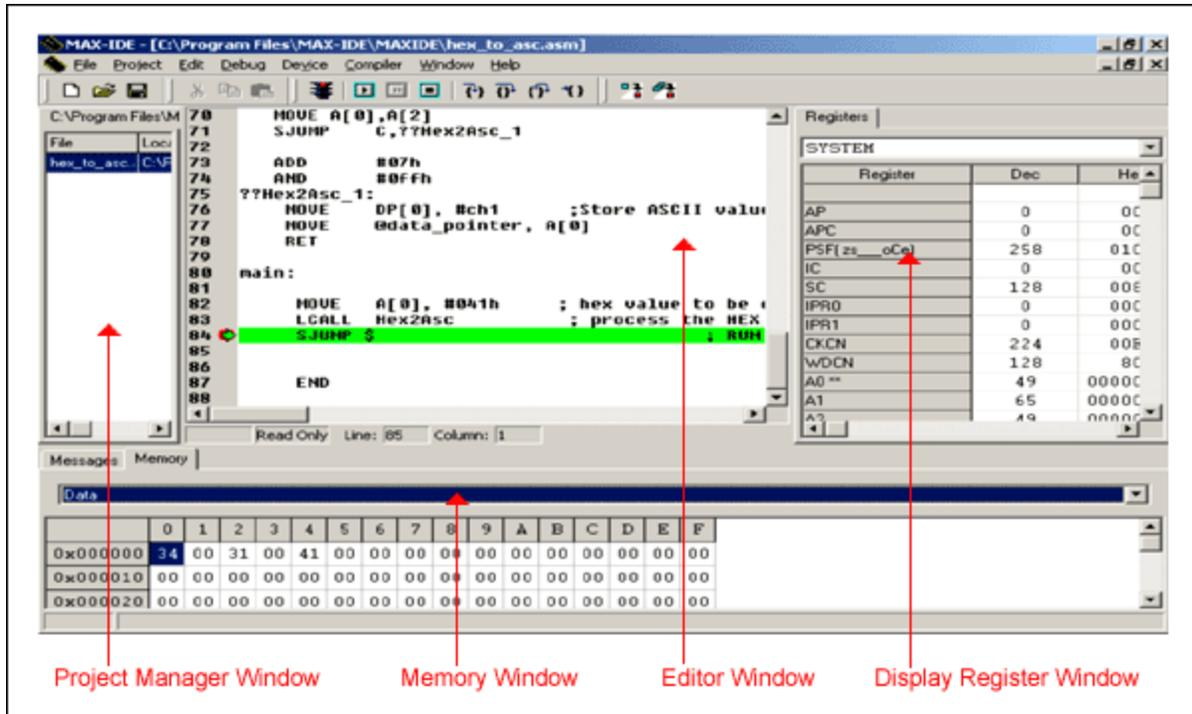

Figure 5. The Debug Windows with the breakpoint are indicated by the green arrow and line.
Figure 5 shows the breakpoint and an instance of the application running.
Step 12: Open the Statistics window (**Window→Show→Statistics**). This action shows you the machine cycles and execution time (**Figure 5**).